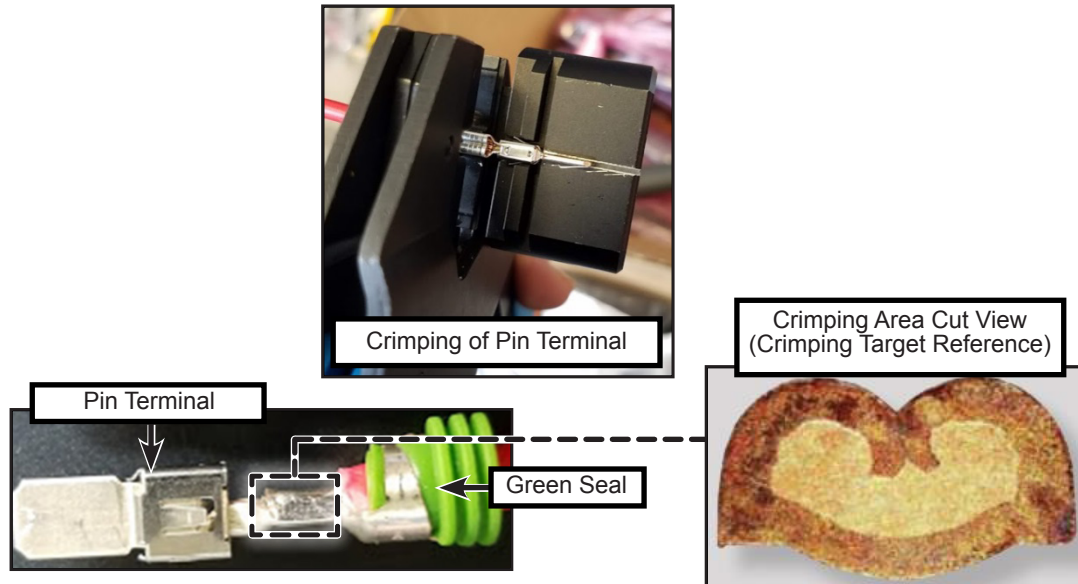

Figure 14 - TE Connectivity HDSCS Pin Terminal and Green Seal
- 1.25. Using the HDSCS crimping tool (see figure 7), crimp the pin terminal PN N97874-02 with the green seal PN N77238 on both RED and BLACK power wires (see figure 14). Refer to the figure below showing a typical HDSCS terminal crimp example and to Annex 1 for more information about the HDSCS connectors terminal crimping quality guidelines.